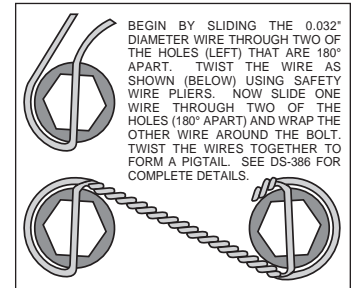

Figure 3. Safety Wire Diagram
- Orient the rotor (6) and the hat (7) as shown in Figure 1 and Photo 3. Attach rotor to hat using bolts (9) and washers (8). Using an alternating sequence, apply red *Loctite*® 271 to the threads, and torque to 140 **in-lbs**. For an added measure of security, the bolts may be safety wired using standard 0.032 inch diameter stainless steel safety wire as shown in Figure 3.